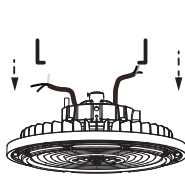

Figure 2
1. To install the optional U bracket on the luminaire, begin by attaching the L-shaped U mounting brackets on the luminaire. (See Figure 2)